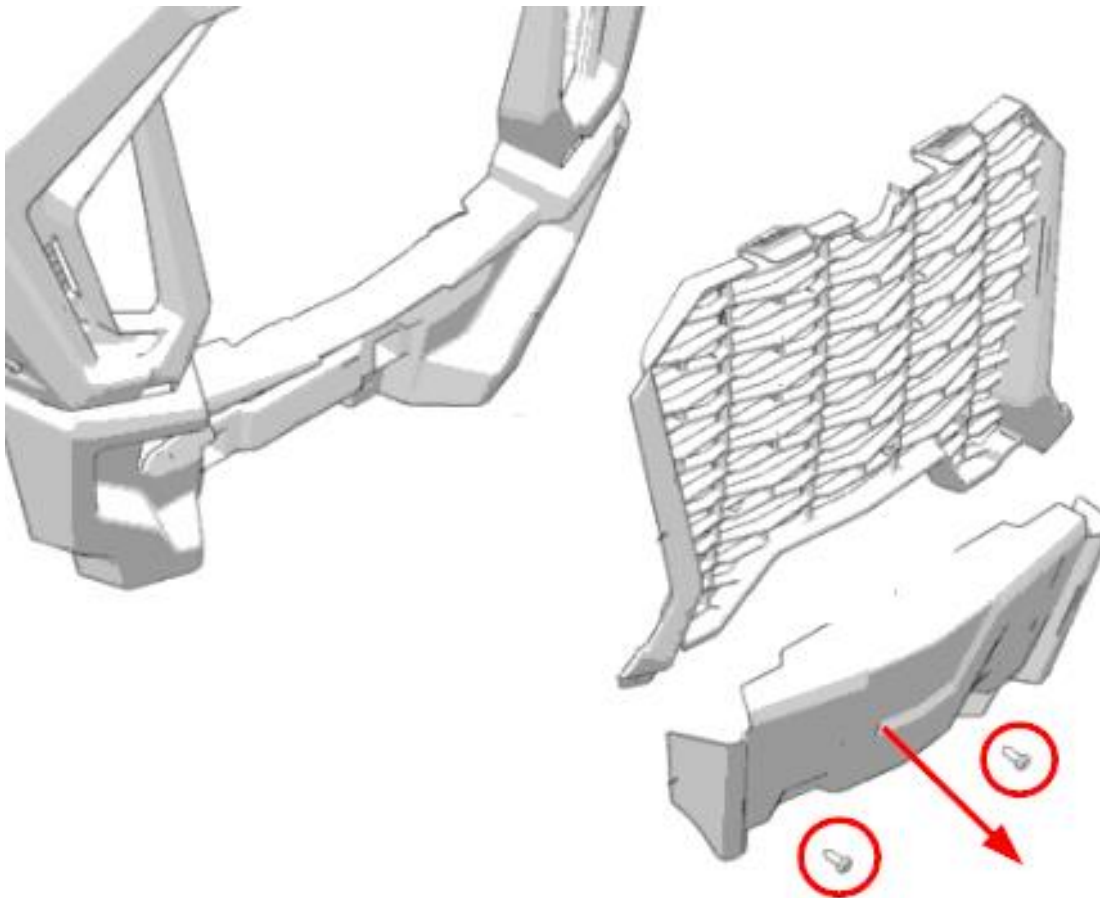

Figure 1
1. Remove the two screws that secure the plastic winch cover plate on the front of the machine as shown in Figure 1.